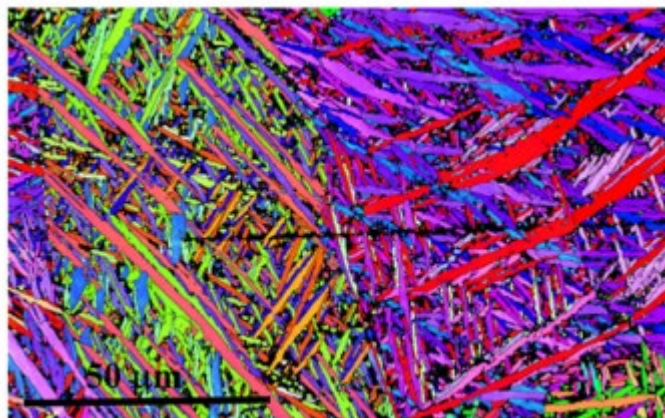

Figure 7. EBSD map of a Ti6Al4V alloy built after Laser Powder Bed Fusion
- The EBSD map given in Figure 7 illustrates the microstructure of the part after the LPBF process. What is the name of the phase that has formed? Explain why this phase is pronounced after Laser Powder Bed Fusion. (2P)